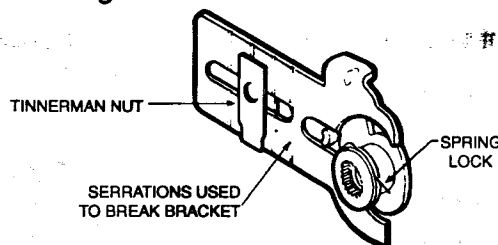

Figure 2
bracket due to interface. This can be done by bending and breaking the bracket at one of the serrations. Refer to Figure 2.
8. Review prong drivers and dial shaft position at "off". Shaft and drivers should match the same physical position as the original. If necessary to remove the adaptable shaft, press the spring lock counter clockwise while lifting the shaft. Reposition the adaptable shaft as required. See Figure 2.